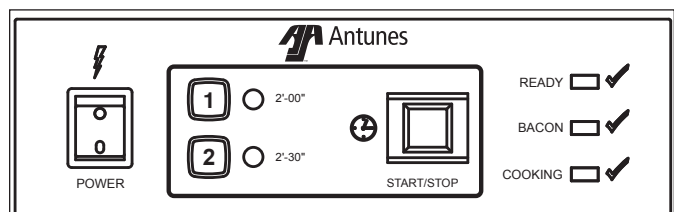

Figure 3. Operating Controls
1. Turn the power on (Figure 3).Figure